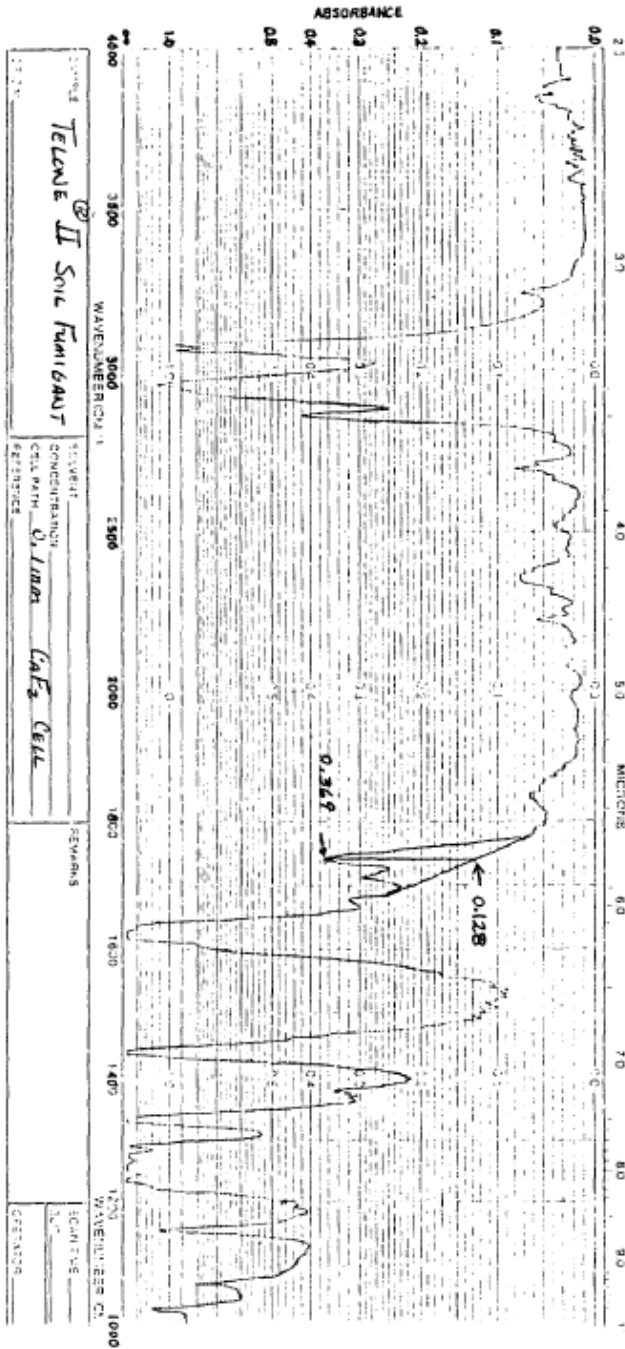

FIGURE 1
7.1.3 Measure absorbance of band at 1740 cm^{-1} (Figure 1)